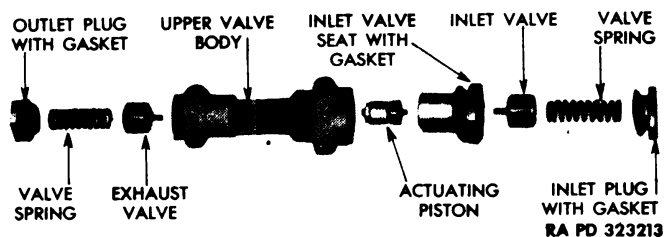

Figure 219 — Upper Valve Body Disassembled
(4) **REMOVE INLET VALVE** (fig. 219). Clamp upper valve body in vise. Unscrew inlet plug and gasket from inlet valve seat. Pull out valve spring and inlet valve. Unscrew valve seat and gasket from valve body.
(5) **REMOVE EXHAUST VALVE** (fig. 219). Unscrew outlet plug with gasket from upper valve body. Pull out valve spring and exhaust valve.
(6) **REMOVE ACTUATING PISTON** (fig. 219). Insert a small punch through outlet port, and force actuating piston assembly out through inlet port.
- (1) Dip all parts in clean engine oil, and permit excess oil to drain off before assembling.
- (2) **ASSEMBLE ACTUATING PISTON UNIT** (fig. 219). Assemble adjusting screw and lock nut to actuating piston. Using a micrometer calipers (41-C-307), set adjusting screw to measure 1.090 inches from end of piston pin to head of screw (fig. 220). Tighten lock nut and recheck measurement. Place locking ring over recessed section of piston cup, and slip piston cup over piston pin with solid end of cup against piston.
- (3) **INSTALL ACTUATING PISTON UNIT** (fig. 219). Insert piston in upper body inlet port, and into smaller bore with adjusting screw toward center of body.
- (4) **INSTALL INLET VALVE** (fig. 219). Place gasket over threads of inlet valve seat, then screw seat into body and tighten. Place inlet valve into inlet valve seat with pin portion through hole in bottom of
(5) **INSTALL EXHAUST VALVE** (fig. 219). Place exhaust valve in outlet port with pin through hole in bottom of bore. Set valve spring in depressed section of valve. Screw outlet plug with gasket into valve body and tighten.